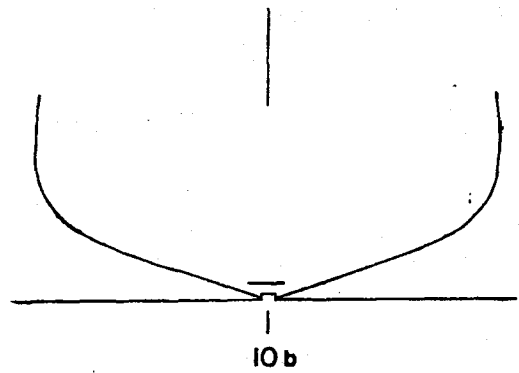
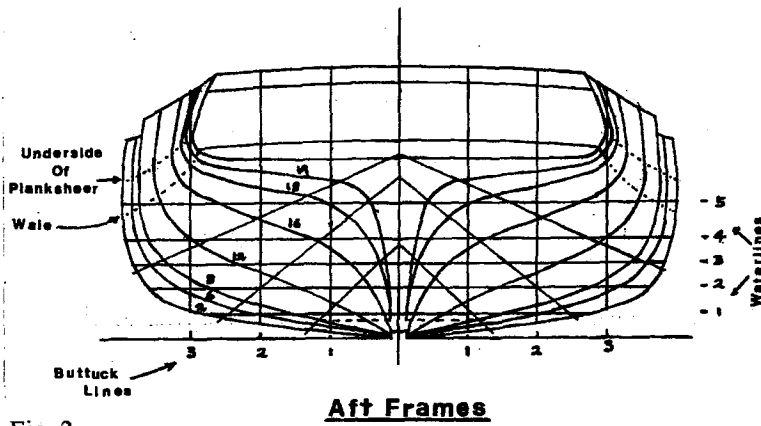

Fig. 4
Fig. 2
2. Figure 2: Add horizontal waterlines and vertical buttock lines to two mylar blanks. Transfer forward body sections to one side of a blank, aft stations to a second blank. Use bow compass to establish points for opposite side on each drawing so you end up with both port and starboard sides on one drawing.
3. Figure 3: Place mylar blank over body section (Figure 2) so baseline and midline exactly coincide. Using bow compass, transfer points for any frame from sheer plan to blank.
4. Figure 4: To get new frame drawing, connect points in 3 by extrapolating between adjacent body sections in Figure 2. Use French curves for this. Be sure that your new frame lines are fair, i.e.: free from bumps and angles.